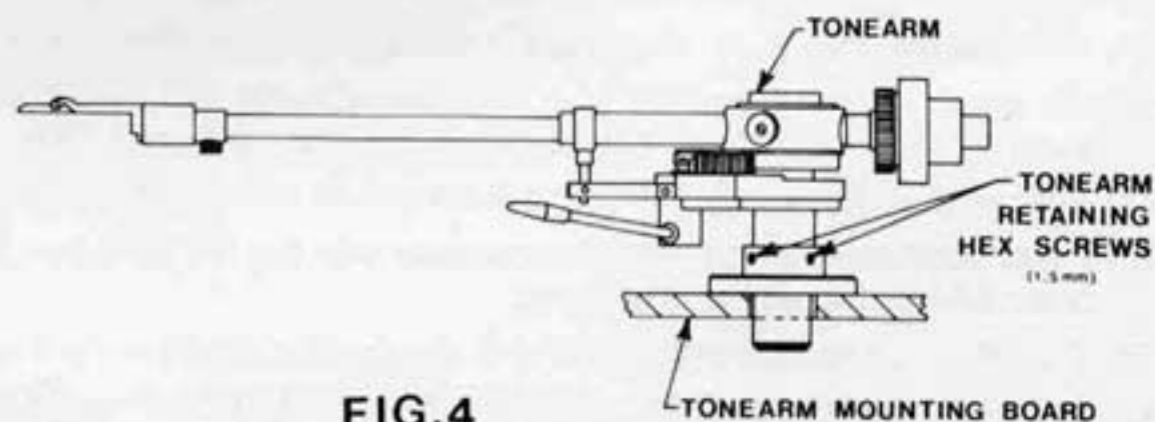

FIG. 4
- (5) Adjust the tonearm so that it is parallel to the record surface when playing. Place a record on the platter and lower the tonearm onto the record. Check whether the arm is parallel to the record by viewing it at record level. If it is not parallel, place the arm back in the arm-rest and loosen the two 1.5mm allen screws in the arm base (fig 4) with the allen wrench supplied. The arm height may now be adjusted, the allen screws lightly tightened, and the position re-checked with the stylus on the record. Once the correct height is obtained, the two allen screws should be firmly tightened.